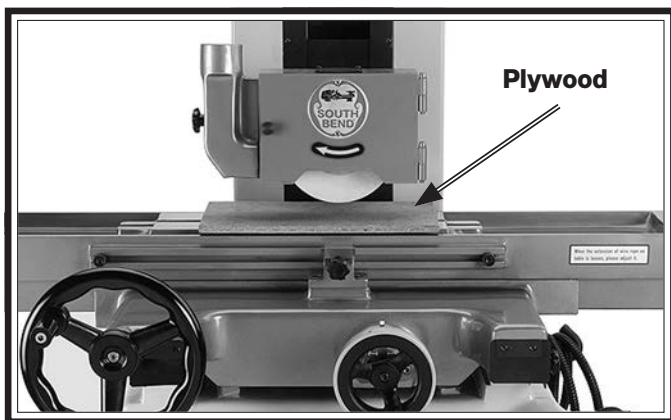

Figure 21. Protecting table.
2. Place a sheet of plywood or similar on top of the table (see **Figure 21**), and open the grinding wheel cover.